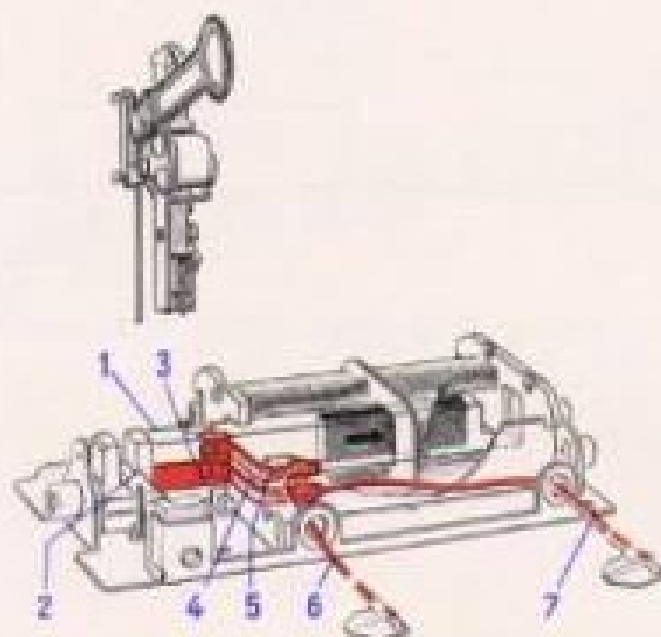
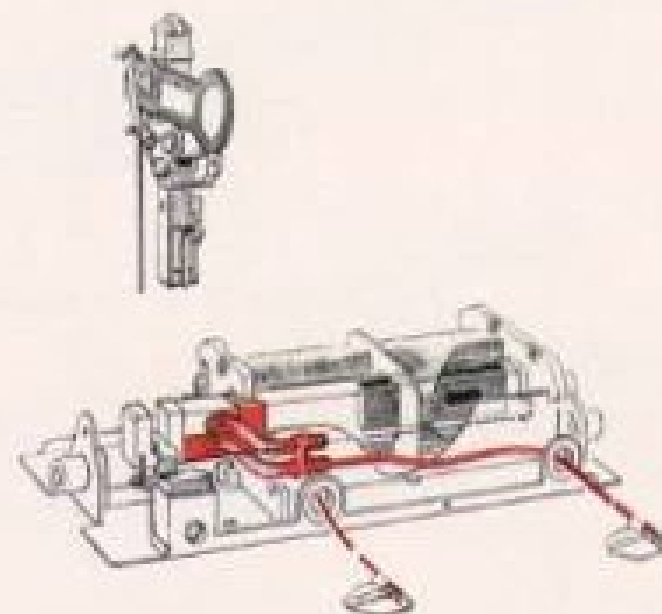

Fig. 6a Operating Current Interruptor in "Go" Position
Fig. 6b Operating Current Interruptor in "Stop" Position
tongues. Fig. 6a shows the interruptor when the signal is open. Both contact tongues (4 and 5) are on the contact piece (3) so that the current flows from one tongue to the other. This enables the operating current to flow from one red cable (6) into the other (7) and thus pass through the signal (Signal in "Go" position). Fig. 6b, on the other hand, shows the signal in closed position. Here the core has been pulled back so that the upper silver contact tongue (5) has slid off the contact piece (3) and now rests on the core (1) which is made of insulating material. This prevents current from flowing from one red cable into the other and thus stops the train (Signal in "Stop" position).
which regulates the operating current with the aforementioned result. The construction of this interruptor is illustrated in Figs. 6a and 6b. It is coupled with the core (1) which moves the signal arm through an angle joint (2) and rods. (In the illustration the masts of the signals have been broken.) On both sides of the core there is a contact piece (3) for overhead and third rail interruption. On each of these contact pieces two contact tongues are sliding (visible in the illustration are contact tongues 4 and 5). The two red cables (6 and 7) which run out from the signal are soldered to the ends of the contact